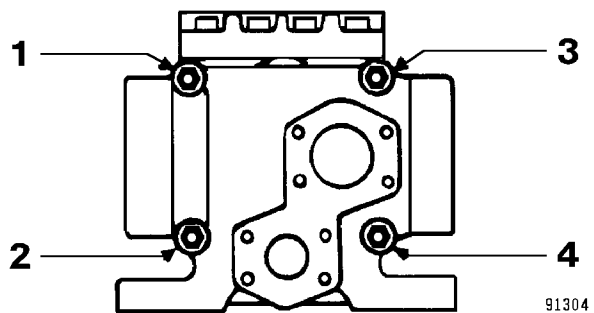

FIGURE 8-4.
5. A torque wrench must be used to tighten the nuts in the pattern, as shown in Figure 8-4. The tie rods must be tightened evenly to **142 N·m (105 ft lbs)** in the following sequence: